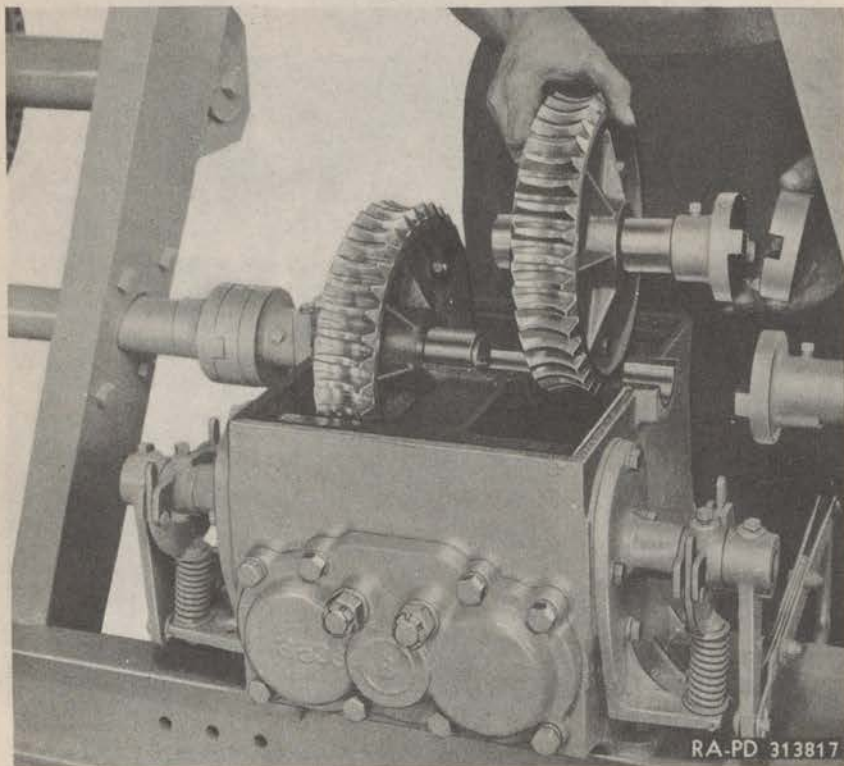

Figure 180—Removing Worm Wheel Assemblies
(3) **REMOVE THE WORM WHEELS.** Remove the cap screws holding the bearing blocks in place and remove the blocks. Then lift the worm wheels out, one at a time, being sure not to lose the coupling center disk at the outer end of each worm wheel shaft (fig. 180).